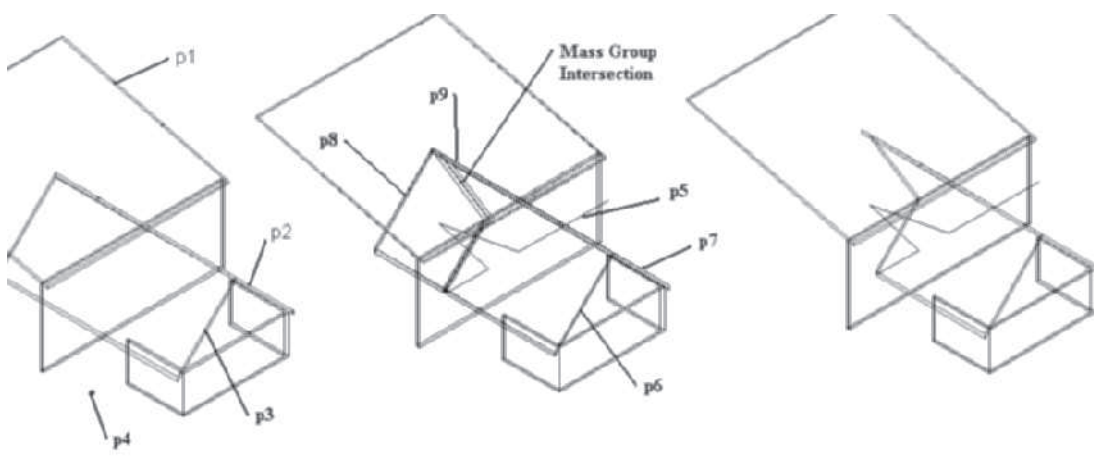

FIGURE 7.49 Cutting a roof slab at the intersection of roof planes
2. Select **Mass Group** from the **Massing** palette and attach each roof slab **p1**, **p2**, and **p3** shown in Figure 7.49 to the group. Select any coordinate for the location of the mass group marker.
3. View the roofs from Top, select **Polyline** from the Line flyout of the Draw panel in the Roof Slab tab, and trace the intersection of the roof using the **Intersection** object snap to create a polyline. The isometric view of the polyline is shown at **p5** in Figure 7.49.
6. Select the roof slab at **p6** as shown in Figure 7.49, right-click, and choose **Cut** from the Modify panel of the Roof Slab tab. Respond to the workspace prompt as shown below:
Select cutting objects (a polyline or connected solid objects): *(Select the polyline at p5 as shown in Figure 7.49.)*
8. Select the roof planes at **p8** and **p9** that penetrate into the building, right-click, and choose **Basic Modify Tools > Delete** from the shortcut menu. View the slab intersection as shown at the right in Figure 7.49.